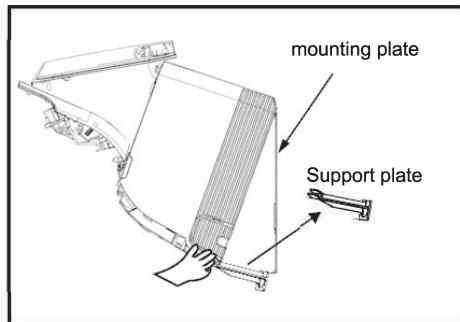
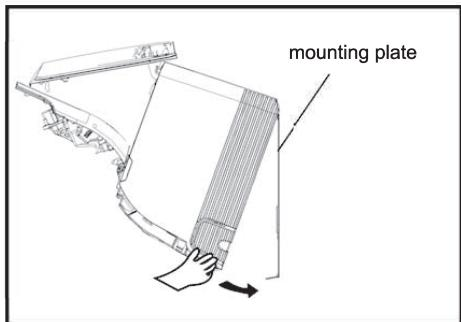
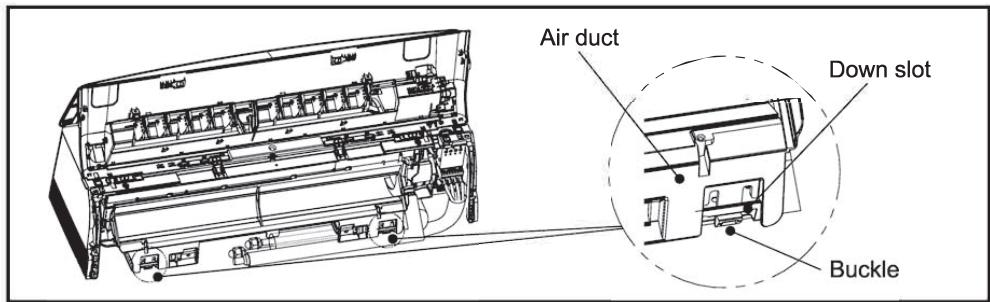

Fig. 19
Fig. 20
Fig. 21
- 9) Remove the support plate as shown in Fig. 19. Then move the unit step by step to reach the best installation, then press the 2 buckles of the air duct into 2 down slots of the mounting plate. (Fig.20 and Fig.21)